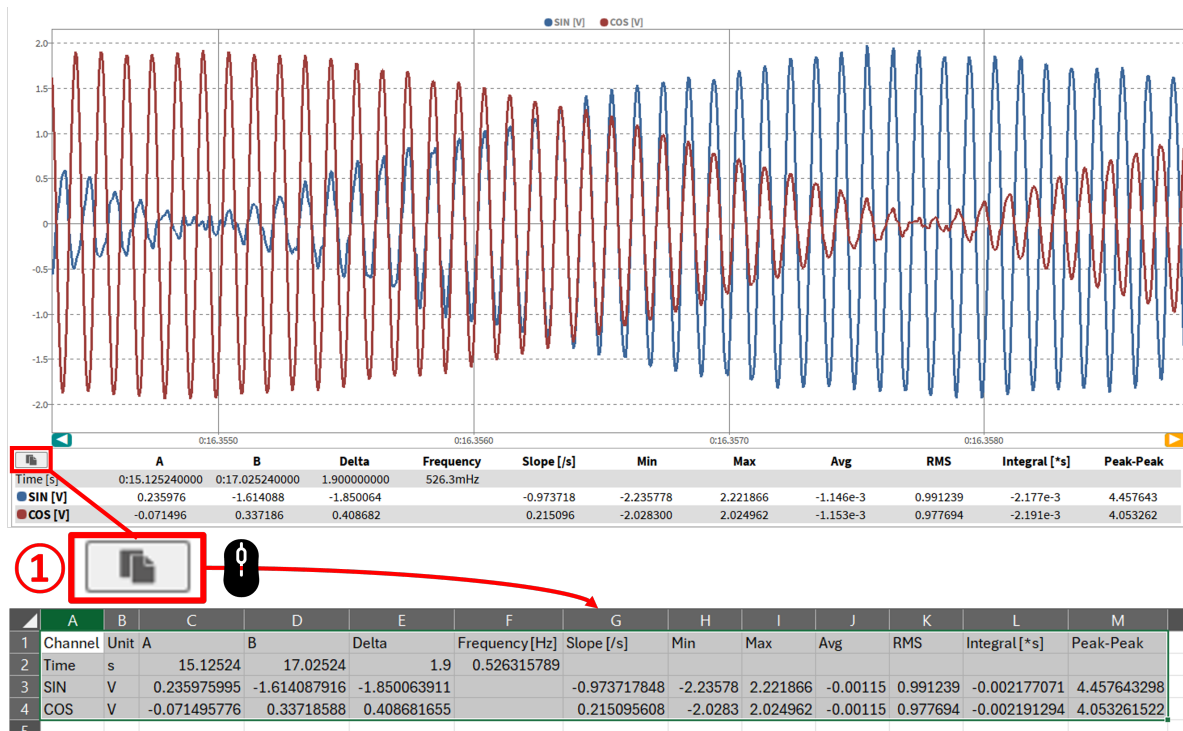

Fig. 8.25: Copy cursor values to clipboard
It is also possible to copy the displayed cursor values directly from the instrument in use to the clipboard and paste them into an Excel file or a simple text file, for example. To do this, simply click on the copy button displayed on the left above the table of cursor values (see ① in Fig. 8.25) or you can simply click in the instrument with the left mouse button and copy the values with the key combination "CTRL + C".